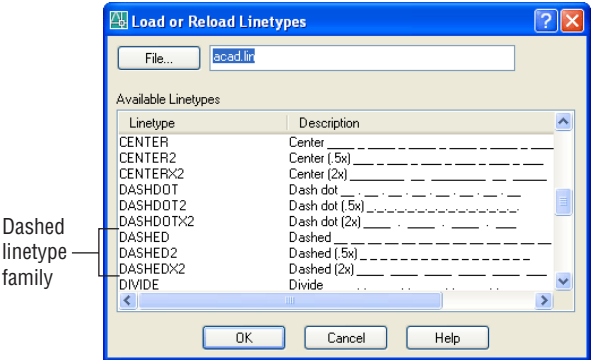

FIGURE 6.10: The list scrolled to the three Dashed linetypes
- 2. Click Load to open the Load Or Reload Linetypes dialog box. Scroll down the list to the Dashed, Dashed2, and DashedX2 linetypes (see Figure 6.10). Notice how, in this family, the dashed lines are different sizes.
Standard AutoCAD Below the ISO linetypes are eight families of three linetypes each, mixed with seven special linetypes that contain graphic symbols. Each family has one basic linetype and two that are multiples of it: one has dashes twice the size (called, for example, Dashed×2), and one has dashes half the size (called Dashed2). (See Figure 6.10, shown earlier.) Having an assortment of different sizes of one style of linetype is helpful for distinguishing between building components, such as foundation walls and beams, which, in addition to roof lines, may also need dashed lines.